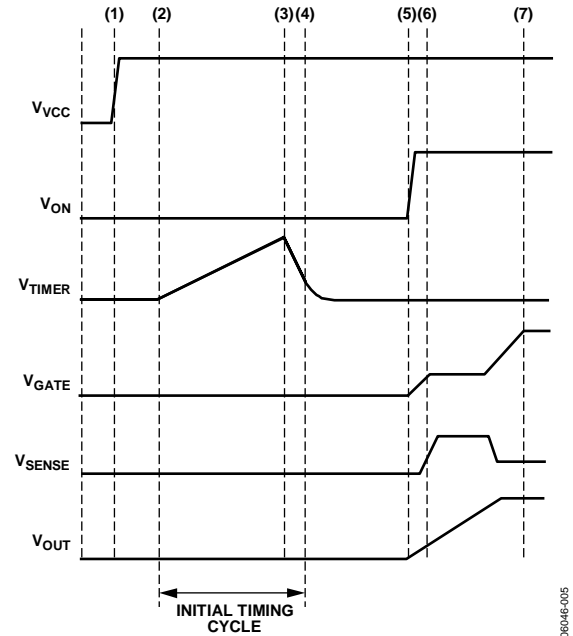

Figure 31. Startup (ON Asserts After Power Is Applied)
At Time Point (6), V_{GATE} and V_{OUT} have reached their full potential, and the load current has settled to its nominal level. Figure 31 illustrates the situation where the ON pin is asserted after V_{CC} is applied.